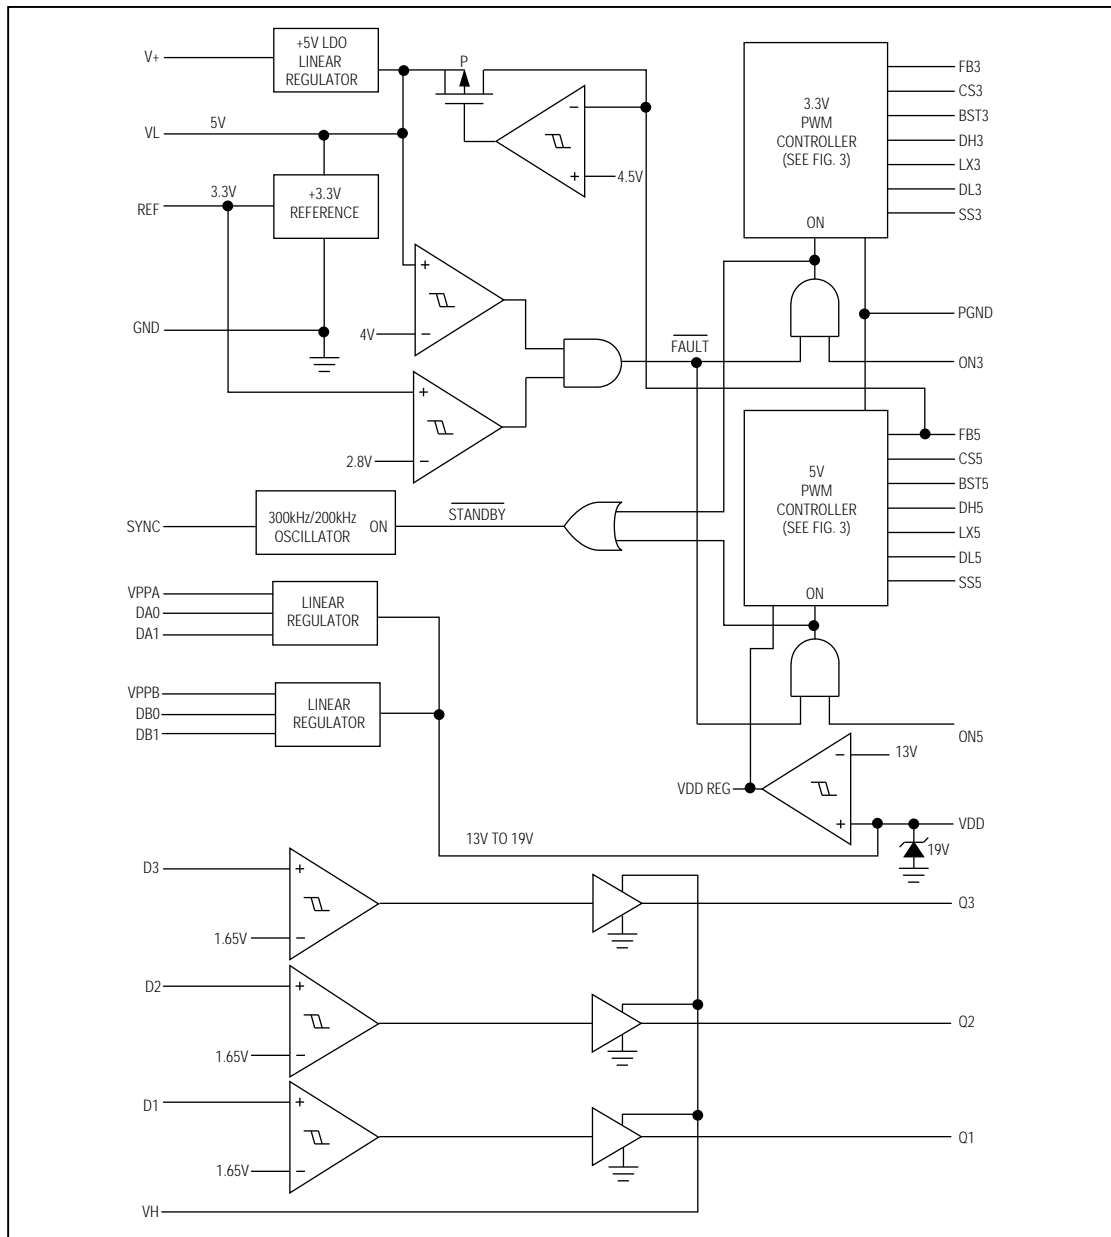

Figure 2. MAX782 Block Diagram
An internal 5V, 25mA supply (VL) and a 3.3V, 5mA reference voltage (REF) are also generated, as shown in Figure 2. Fault-protection circuitry shuts off the PWM and high-side supply when the internal supplies lose regulation.